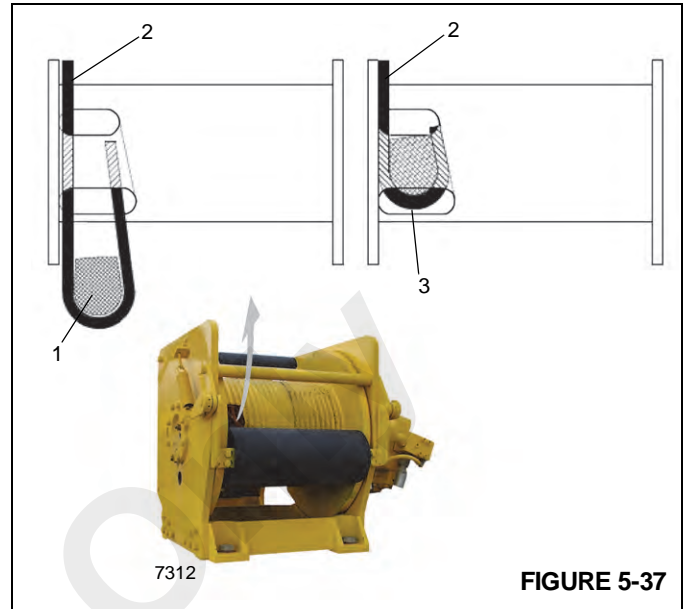

FIGURE 5-37
3. Insert the cable through the slot and position around the anchor wedge (1) Figure 5-37.